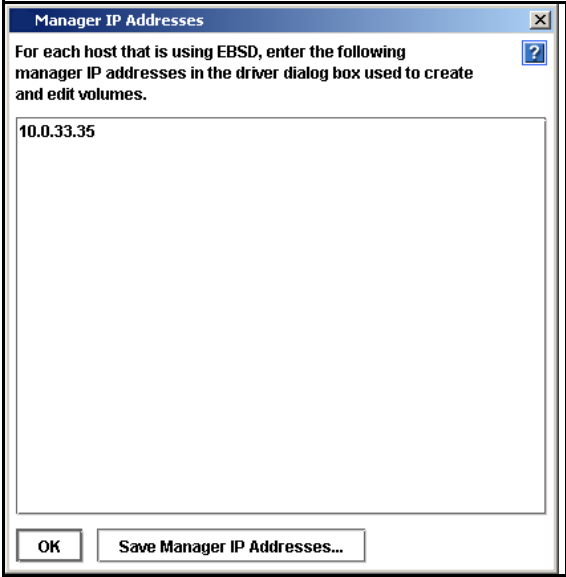

Figure 130. List of Manager IP Addresses for Management Group
- 5. Click Add. The Managers IP Addresses window opens, shown in Figure 130.